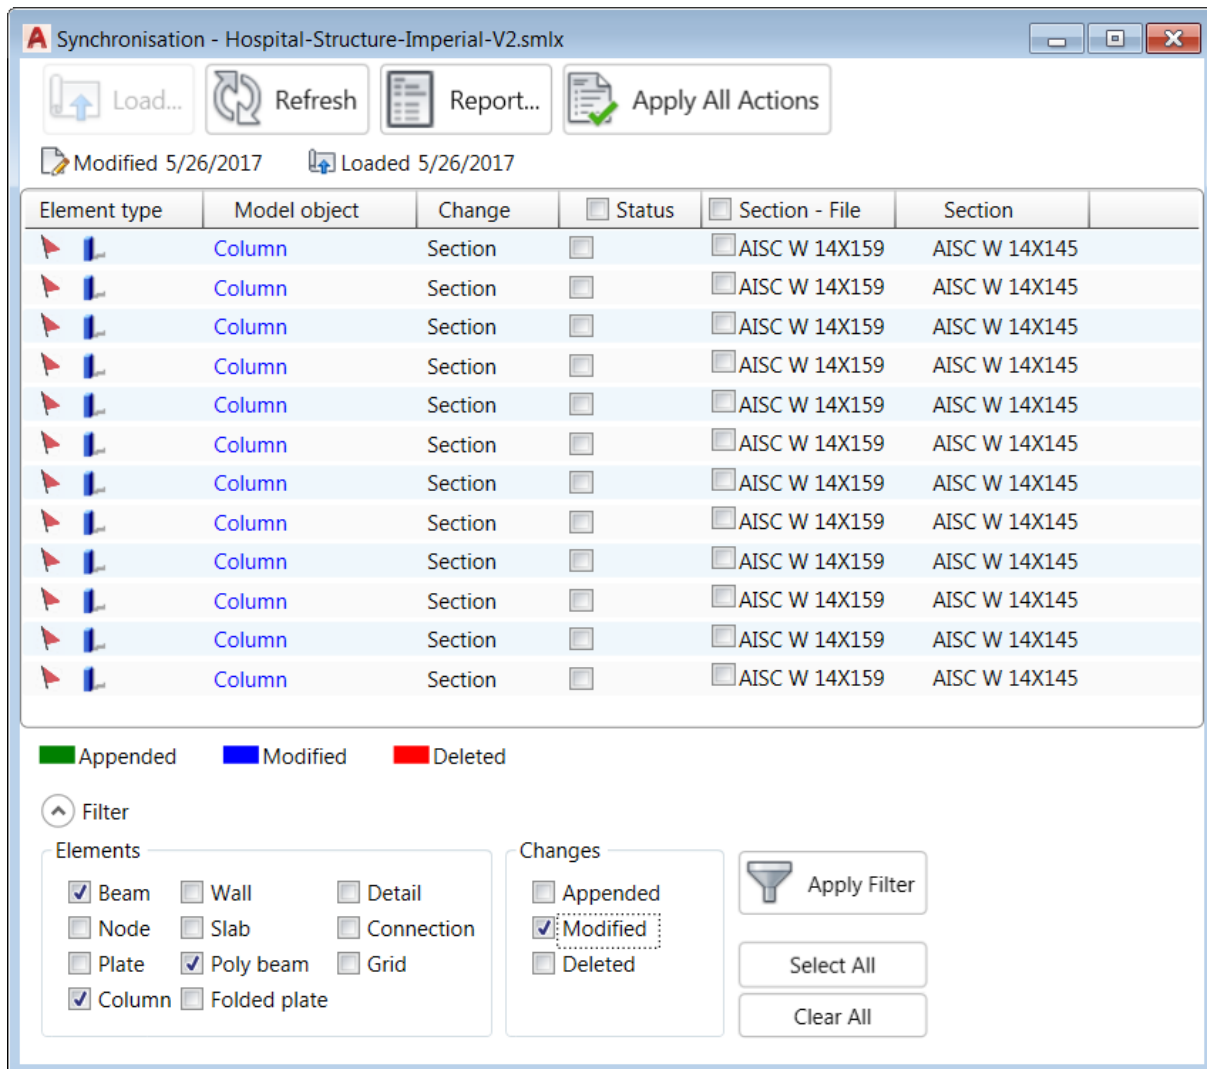

FIGURE 26: THE SYNCHRONIZATION DIALOG BOX SHOWING ALL THE CHANGES
3. Expand the dialog box by clicking on the **Filter** button on the lower left corner, as shown in Figure 26.
*addition to the other changes, it means the section of the member has been changed, as shown in the **Section – File** and **Section** columns in Figure 26.*